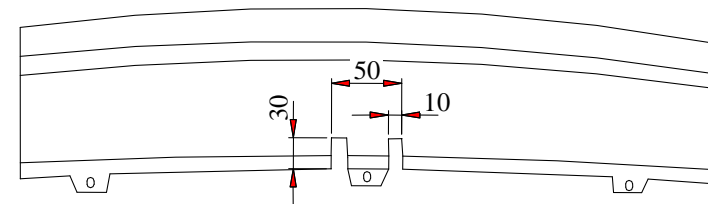

Fig. 2. Bumper cut out
6. Reassemble the bumper after cut his fragments according to figure 2.